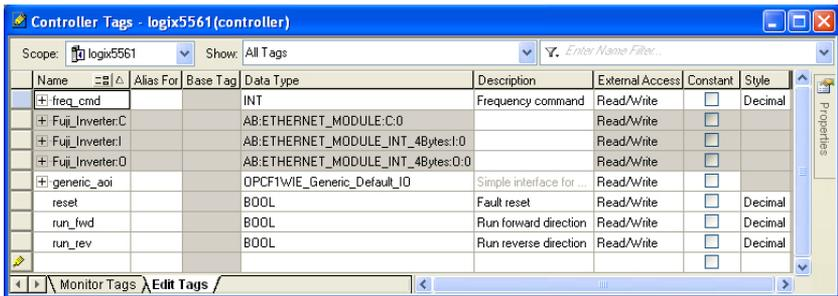

Figure 90: Create Generic Default AOI Tags
- 4) Create the tags in Figure 90.